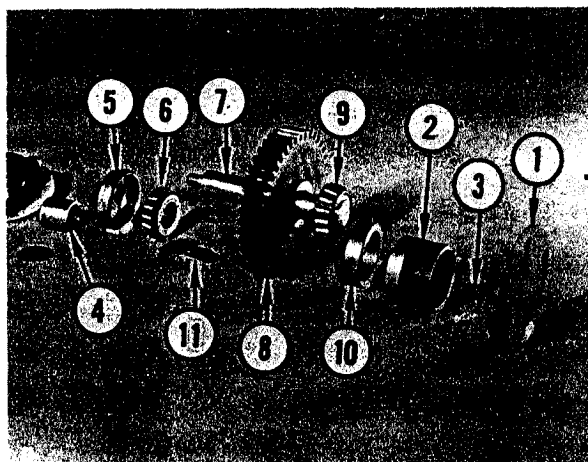

FIGURE 31. PTO DRIVE REMOVAL
Refer to Figure 31. Remove four capscrews and lockwashers and remove cover plate (1). Remove spacer (2). Remove retainer ring (3). Remove spacer (4). Remove bearing cup (5) and bearing cone (6). Drive or press shaft (7) from gear (8); remove gear from converter through the open side. Bearing cone (9) and bearing cup (10) will come out with shaft. Remove bearing cone from shaft. Remove Woodruff key (11) from shaft.